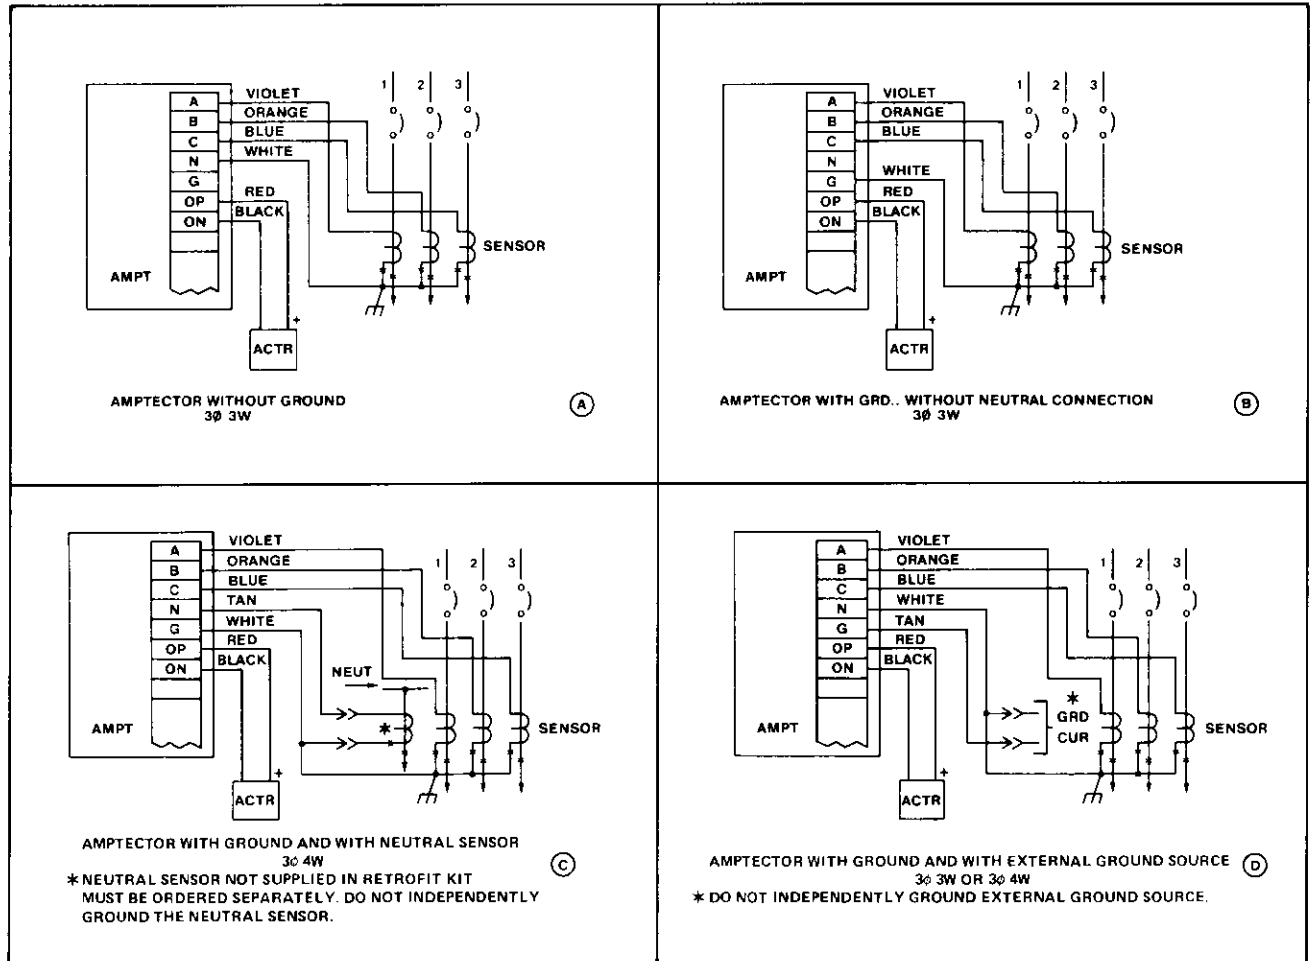

Fig. 5 Wiring Diagram
All the Amptectors in retrofit kits are supplied with a ground element. The ground fault protection is provided by energizing this element with the residual of the currents through the three properly polarized phase sensors in a 3 phase 3 wire system, the three sensors and neutral in a 3 phase 4 wire system, or from an external source of ground current sensing. The Amptector can also be wired so that there is no ground fault protection (see Fig. 5).
1. Dependent upon which Amptector was supplied, acquaint yourself with the appropriate wiring scheme, see Fig. 5.